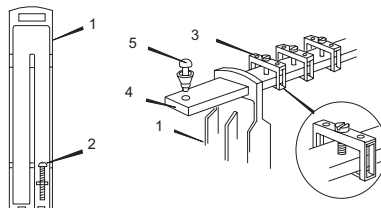

Figure 4.20 – Earth rail details (ERK18)
Optional earth rail kits are available (ERK18)- see Figure 4.20. Cable screens from hazardous-area circuits or spare pairs from a multicore cable can be connected to the terminals on the earth rails.
- a) Locate the earth rail mounting positions- marked 'C' in Figure 4.20- at each end of the backplane.
- b) Attach each mounting post (1) with two M3 x 12 mounting screws and washers (2).
- c) Fit the earth terminals (3) onto the rail (4).
- e) Finally, insert the plastic retaining rivets (5) into each end of the rail.